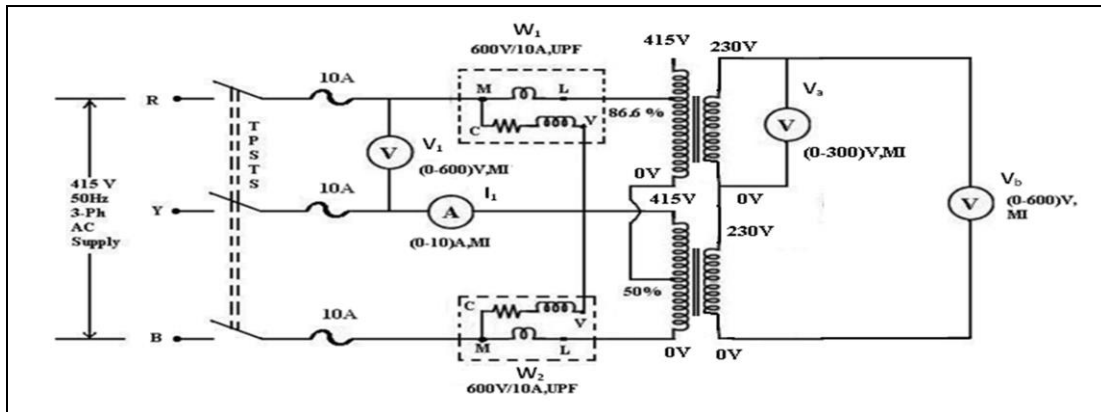

Fig 8.2: Circuit diagram for finding phase relation
4. Connect the circuit diagram as shown in fig 8.2 to verify the phase relationship of the two phase voltages.
S.No.	V 1 (V)	I 1 (A)	W 1 (W)	W 2 (W)	V 2 (V)	I 2 (A)	V 3 (V)	I 3 (A)	Input (kW)	Output (kW)	%η